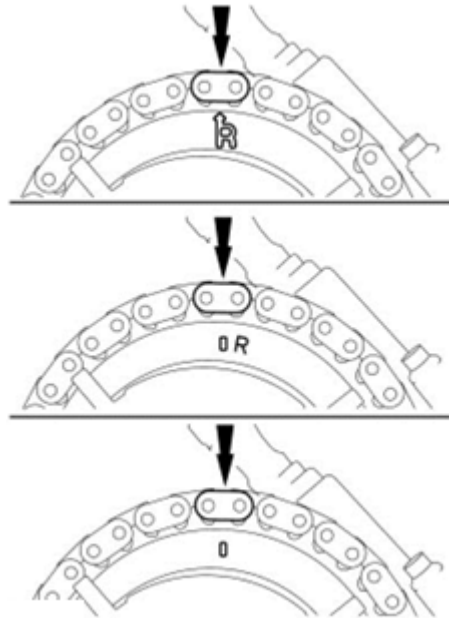

Figure 7 – Reference Identification Mark For RH Cam Phaser & Sprocket
9. Position the RH timing chain on the camshaft sprocket making sure the camshaft sprocket timing mark is aligned with the colored (marked) chain link. NOTE: The camshaft phaser and sprocket will be stamped with one of the illustrated timing marks for the RH camshaft show in Figure 7.